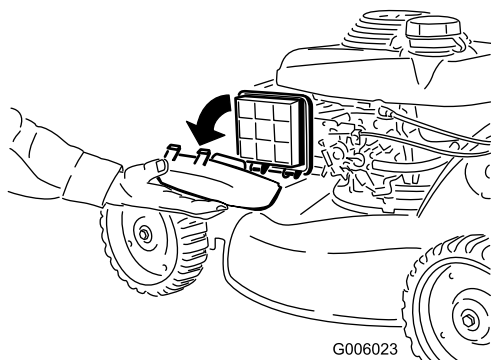

Figure 10
- B. Remove the air cleaner cover to see the throttle on the engine more easily (Figure 10).